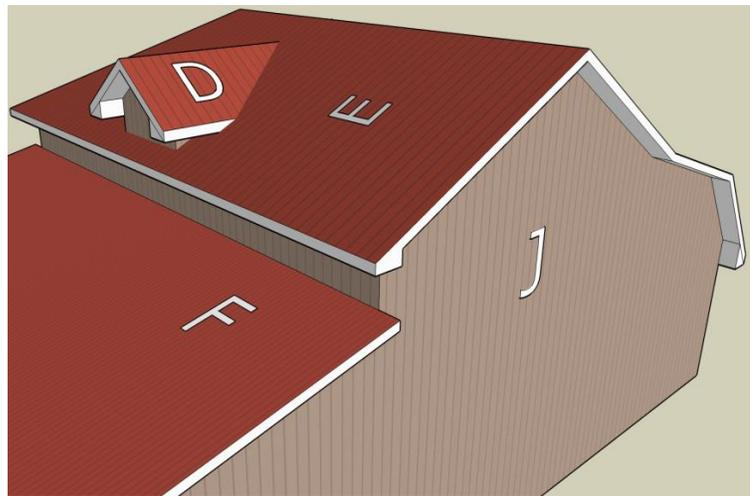

Figure 2
- **Valley Flashing** is used in areas where the panel ribs meet each other at angles, such as between sections **C** and **B** or **D** and **E** (Fig2). The valley flashing is put down before the roofing panels, and the panels laid on top of it, so that the water from both sides runs downhill toward the center of the valley.
This flashing is like the Endwall / Transition flashing (See **Figure 2**) except that there is a 90° **kick** on top that turns back into the chimney. You will need to cut a groove in the chimney for the kick to fit into and then seal it with Solar Seal.